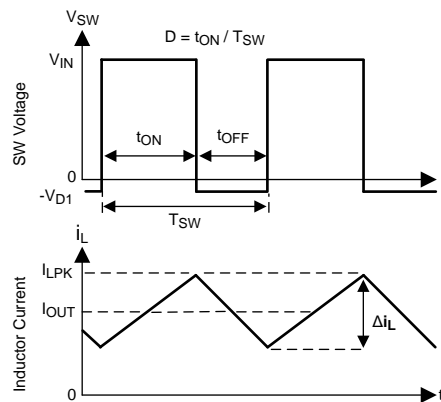

Figure 35. SW Node and Inductor Current Waveforms in Continuous Conduction Mode (CCM)
The following operating description of the LM43603-Q1 refers to the *Functional Block Diagram* and to the waveforms in Figure 35. The LM43603-Q1 is a step-down buck regulator with both a high-side (HS) and low-side (LS) switch integrated into the device. The LM43603-Q1 supplies a regulated output voltage by turning on the HS and LS NMOS switches with controlled ON time. During the HS switch ON time, the SW pin voltage V_{SW} swings up to approximately V_{IN} , and the inductor current i_L increases with a linear slope $(V_{IN} - V_{OUT}) / L$. When the HS switch is turned off by the control logic, the LS switch is turned on after a anti-shoot-through dead time. Inductor current discharges through the LS switch with a slope of $-V_{OUT} / L$. The control parameter of buck converters are defined as duty cycle $D = t_{ON} / T_{SW}$, where t_{ON} is the HS switch ON time and T_{SW} is the switching period. The regulator control loop maintains a constant output voltage by adjusting the duty cycle D . In an ideal buck converter, where losses are ignored, D is proportional to the output voltage and inversely proportional to the input voltage: $D = V_{OUT} / V_{IN}$.